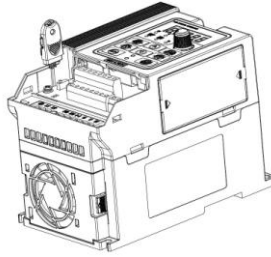

Figure B-4 Uploading and downloading module removal
- Step 4: Unplug upload and download module from the inverter control board (As shown in figure B-4) .